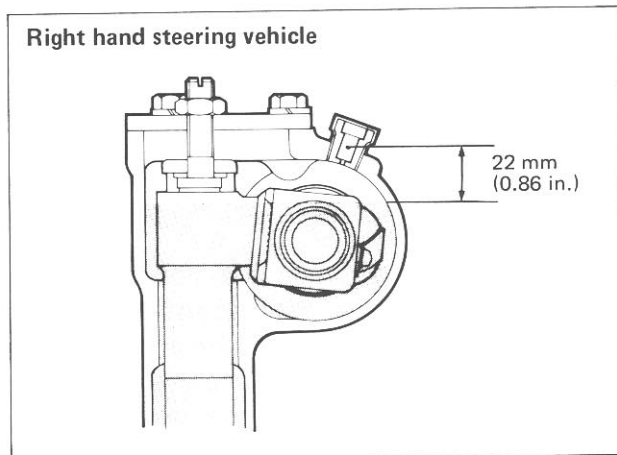
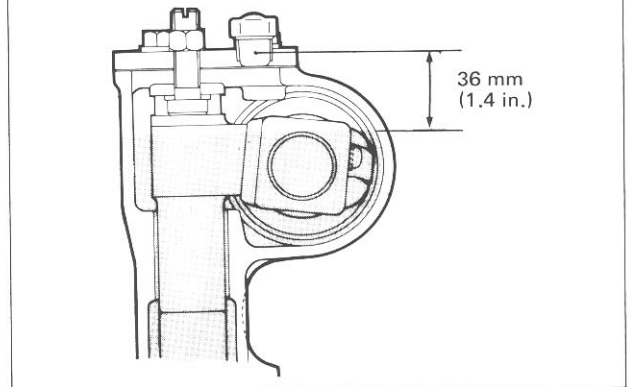

Fig. 18-16
Fig. 18-17
- 1) If any evidence of oil leakage is noted on the gear box upon inspection of the machine brought in for servicing, remove the plug and check the level of oil inside. The oil surface should be up to the level as shown in Fig. 18-16 or Fig. 18-17. If not add oil. Be sure to use the prescribed gear oil, SAE 90.